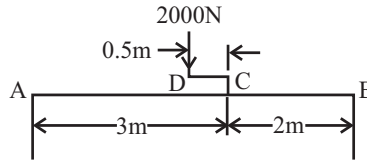

Fig 12.14
Q.12: Draw the SF and BM diagrams for a simply supported beam 5m long carrying a load of 200N through a bracket welded to the beam loaded as shown in fig 12.14